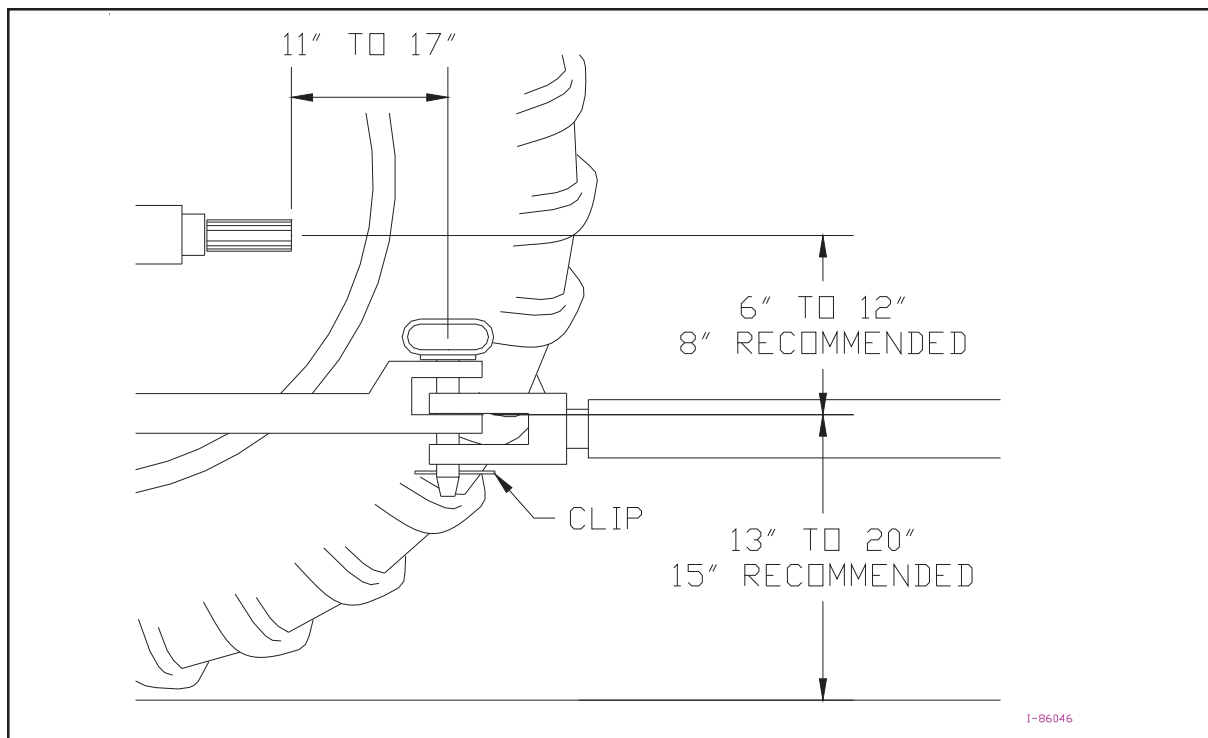

Figure 2A - Specifications for Connecting the Spreader/Tractor Hitch
The spreader hitch is designed to work with a standardized tractor hitch. To connect the spreader hitch to the tractor hitch, refer to Figure 2A and adhere to the following guidelines:
- Adjust the drawbar so that it is 13 to 20 inches above the ground as shown in Figure 2A.
- **For PTO units only:** Extend or shorten the tractor hitch to obtain the horizontal distance from the end of the tractor power take-off (PTO) shaft to the center of the hitch pin hole (Figure 2A).
WARNING: Damage to the spreader or other vehicle, as well as injury to the operator, may occur if a properly-sized hitch pin is not installed as recommended. Note that the installation of the safety clip, as noted in Figure 2A, is also required for safe spreader operation.